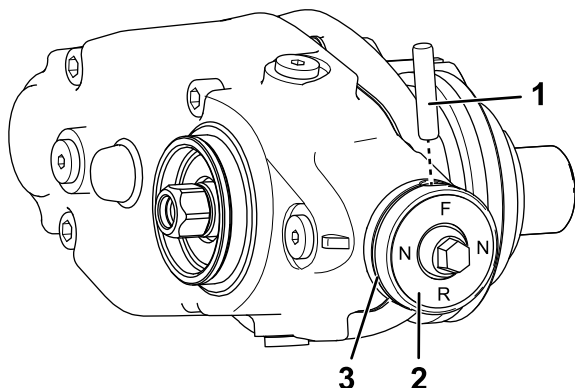

Figure 17
- A. Remove the O-ring from the clutch knob (Figure 17).
- B. Remove the shear pin that secures the clutch knob to the actuator shaft (Figure 17).
- D. Assemble the clutch knob to the actuator shaft with the shear pin (Figure 17).